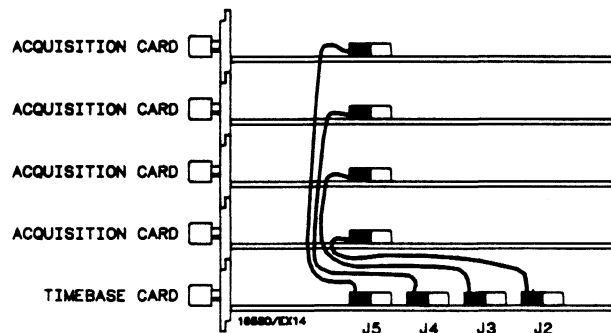

Figure 2-8. Configuration Guide
- f. Use figure 2-8 to plan the card configuration and cable connection.